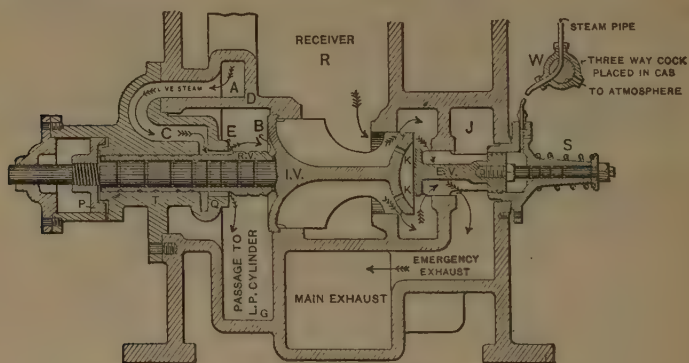

Fig. 352. Richmond (Mellin) Compound, Working Single-Expansion.
there is no pressure in the receiver *R*, and the pressure on the shoulder *E* of the reducing valve *RV* moves the reducing valve, and with it the intercepting valve, to the right (as shown in Fig. 352), closing the receiver *R*, and letting reduced-pressure steam into the L. P. steam chest *G*.
A. It gets reduced-pressure steam direct from the boiler through the port *C* and reducing valve *R V*, as shown in Fig. 352.